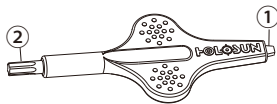

Fig 10
2. T10 Torx tool for screws. (See Fig 10)